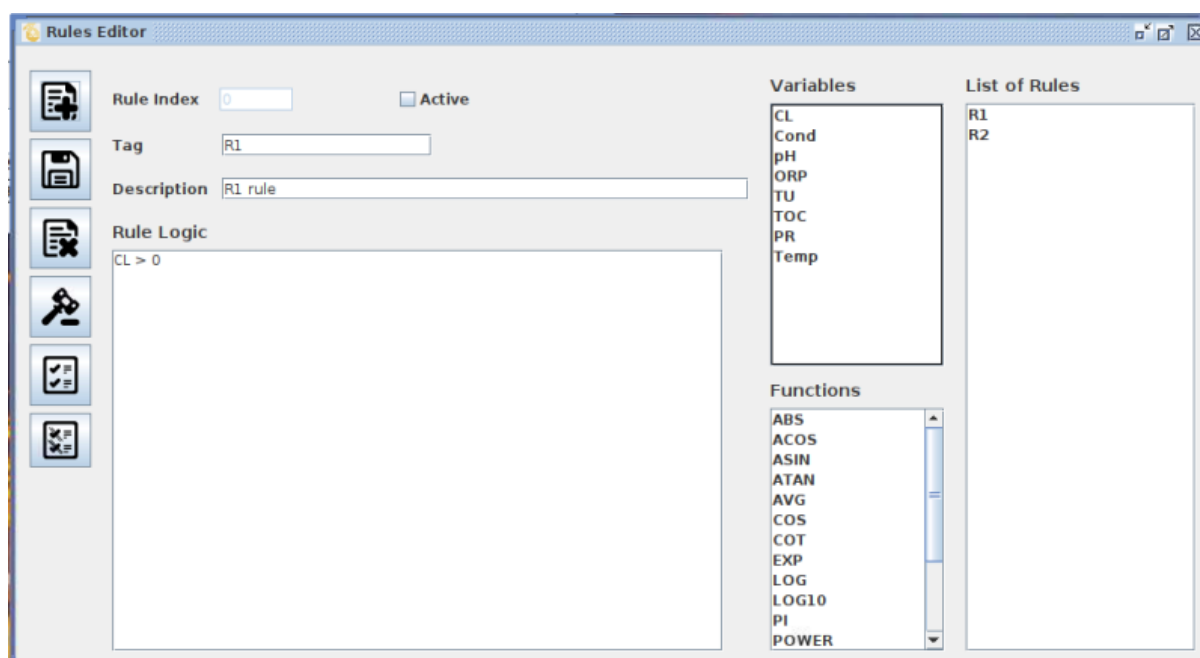

Figure 15: Rules setup
- Filtering detectors. Figure 15 shows the rules setup screen.
Figure 15 shows the rules setup screen.